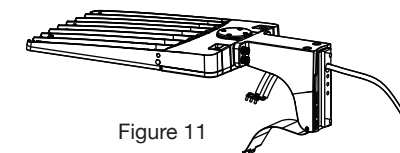

Figure 11
- Step 2: Install the bracket on the fixture. (Figure 11)